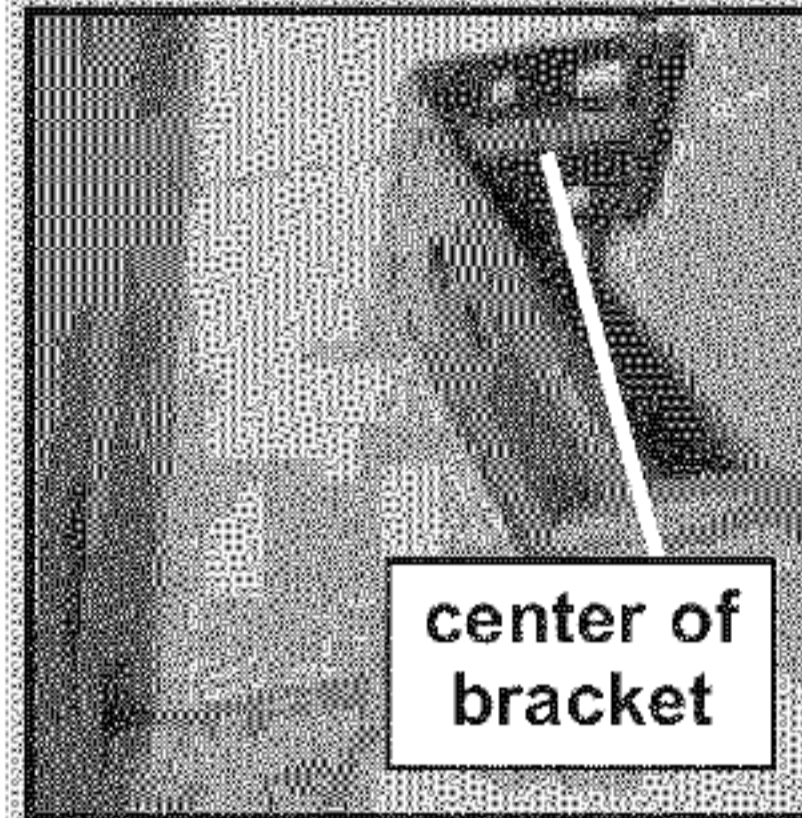

FIG. 3-2 Mount brackets.
- Center bracket on your mark (Fig. 3-2).
- Fasten each with 2 screws (44) (Fig. 3-2).